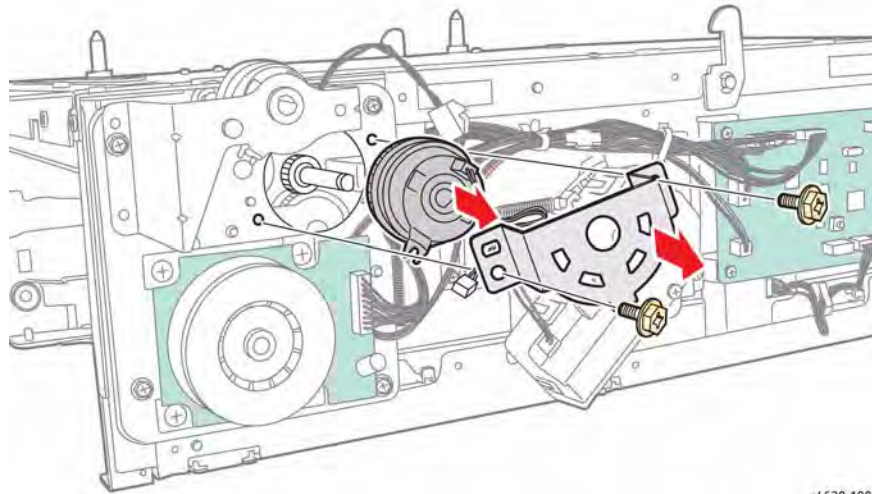

Figure 1 Remove the Feed Clutch
9. Disconnect P/J89 to remove the clutch from the shaft, Figure 1.